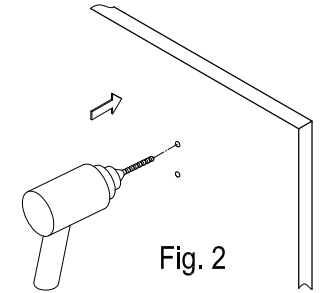

Fig. 2
- Step 4. Remove the template from wall and use a 1/4" drill bit to pre-drill holes in the drywall where pencil marks are drawn (fig 2).
- Step 3. Place the mounting bracket (with the holes on a level) in the center of the pencil outline you just made and mark the location of the mounting screws (fig 2).